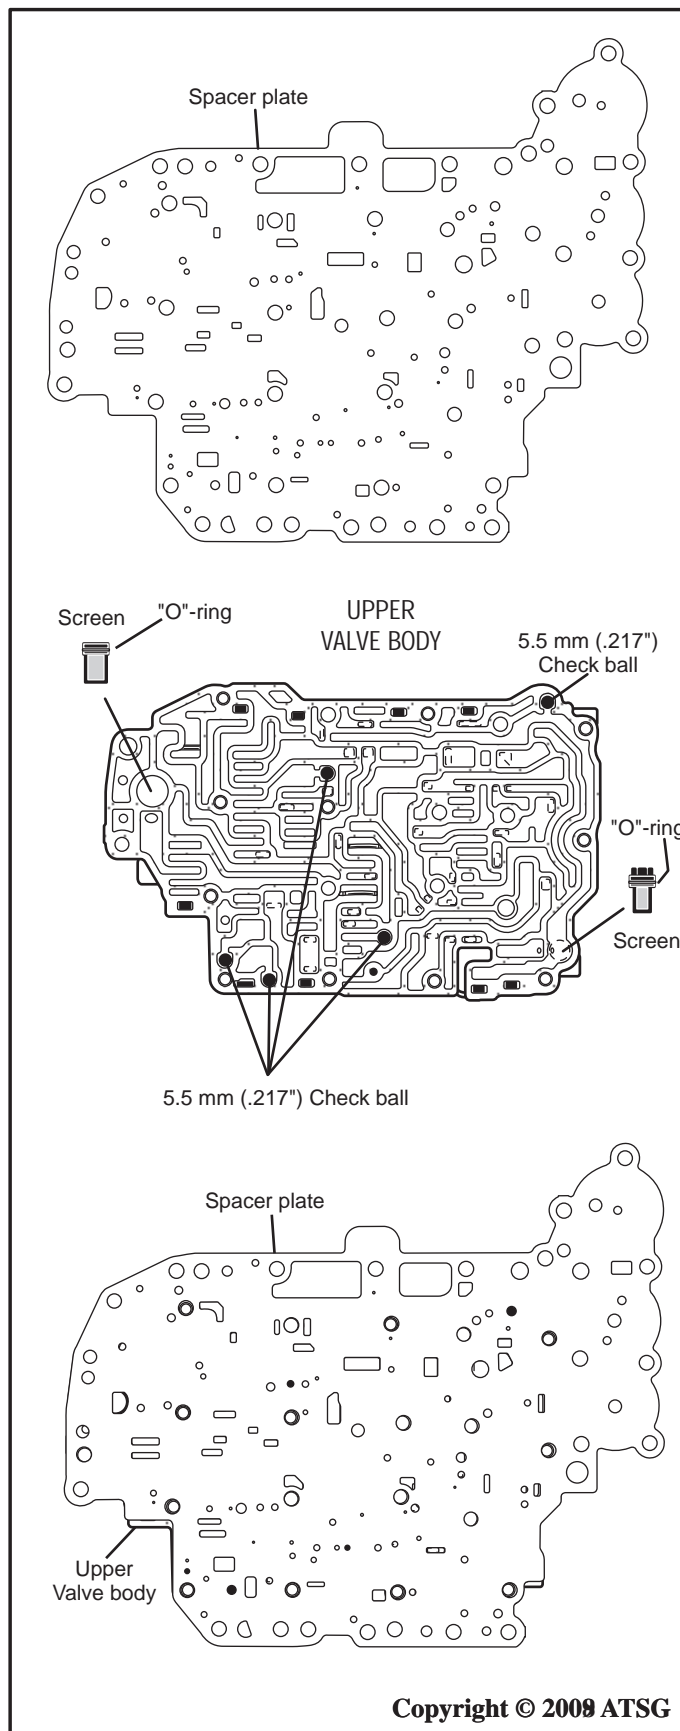

Figure 138
34. Install the cooler relief spring and valve into the lower valve body as shown in Figure 138.
35. Install the five - 5.5mm (.217") check balls into the upper valve body casting as shown below in Figure 138.
36. Install new o-rings onto the two screens and lubricate with a small amount of Trans-Jel® then install into the two holes in the upper valve body in the locations shown in Figure 138.
37. Assemble the spacer plate onto the upper valve body as shown in Figure 138, so it can be installed as an assembly onto the lower valve body.